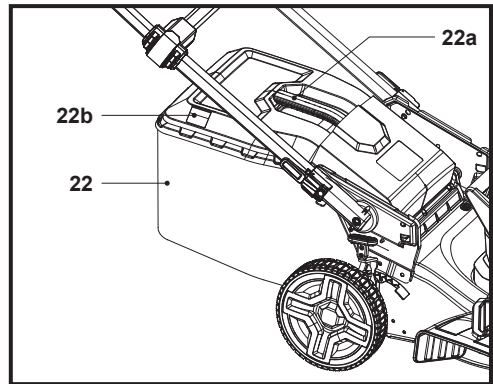

Fig. 13
2. When the hatch (22b) is closed, the grass catcher (22) is full and must be emptied (Fig. 13).